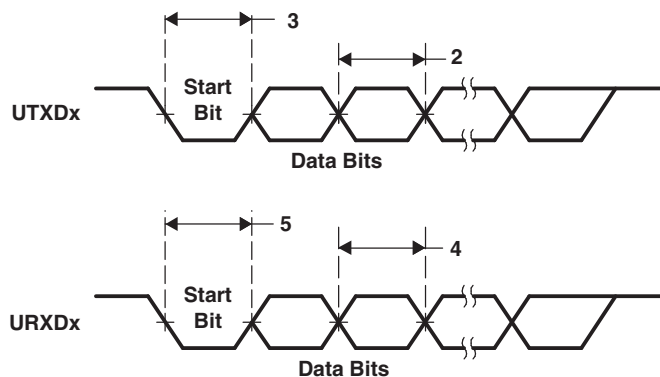

**Figure 6-23. UART Transmit/Receive Timing**
**Table 6-41. Timing Requirements for UARTx Receive(1) (see Figure 6-23)**
(1) U = UART baud time = 1/programmed baud rate.
**Table 6-42. Switching Characteristics Over Recommended Operating Conditions for UARTx Transmit(1) (see Figure 6-23)**